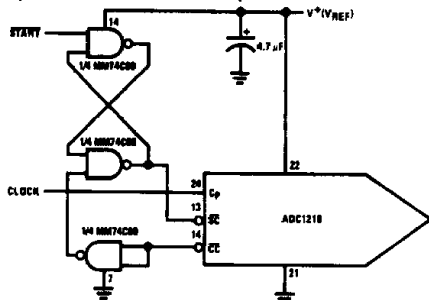

FIGURE 8. Synchronizing the START Pulse
To assure reliable conversion accuracy, the  $\overline{\text{START}}$  (SC) pulse applied to pin 13 of the ADC1210 should be synchronized to the conversion clock. One simple way to do that is the circuit shown in Figure 8. Note that once a conversion cycle is initiated, the  $\overline{\text{START}}$  signal cannot effect the conversion operation until it is completed.